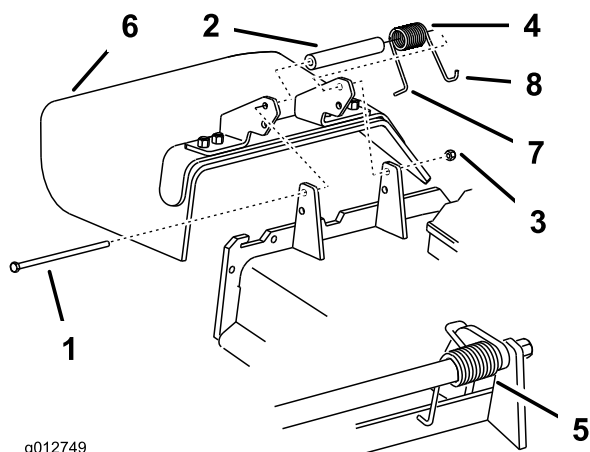

Figure 60
1. Remove the locknut, bolt, spring and spacer holding the deflector to the pivot brackets (Figure 60). Remove damaged or worn grass deflector.
**Note:** Make sure the L end of spring is installed behind deck edge before installing the bolt as shown in Figure 60.
- Install bolt and nut. Place the J hook end of spring around grass deflector (Figure 60).